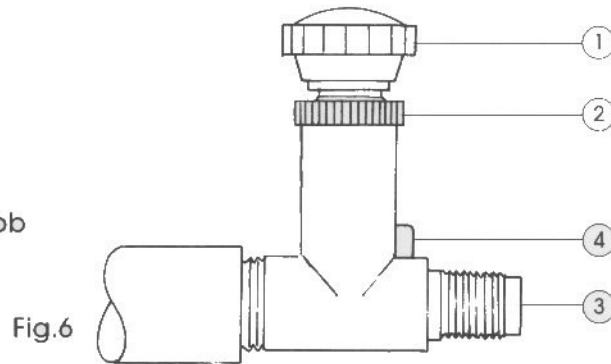

Fig.6
1. Open bleed valve (fig.5, item 2). N.B. since the CFP9BH does not have a bleed valve (only a small bleed hole) ensure no equipment is connected to the air compressor outlet, and that the pressure adjusting knob (fig.6, item 1) is set to minimum.